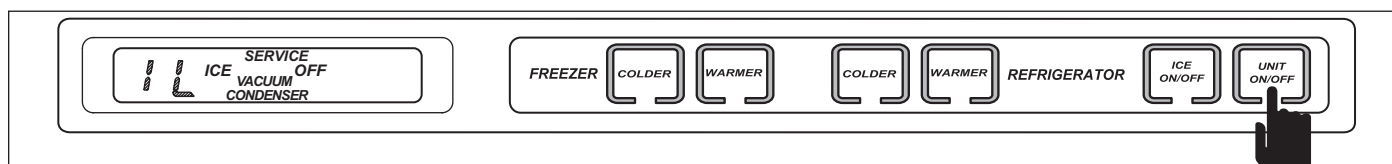

Figure 3-34. Press UNIT ON/OFF Key to Display Inactive Line
- Pressing the UNIT ON/OFF key at this time should display "IL" representing the inactive line (See Figure 3-34).